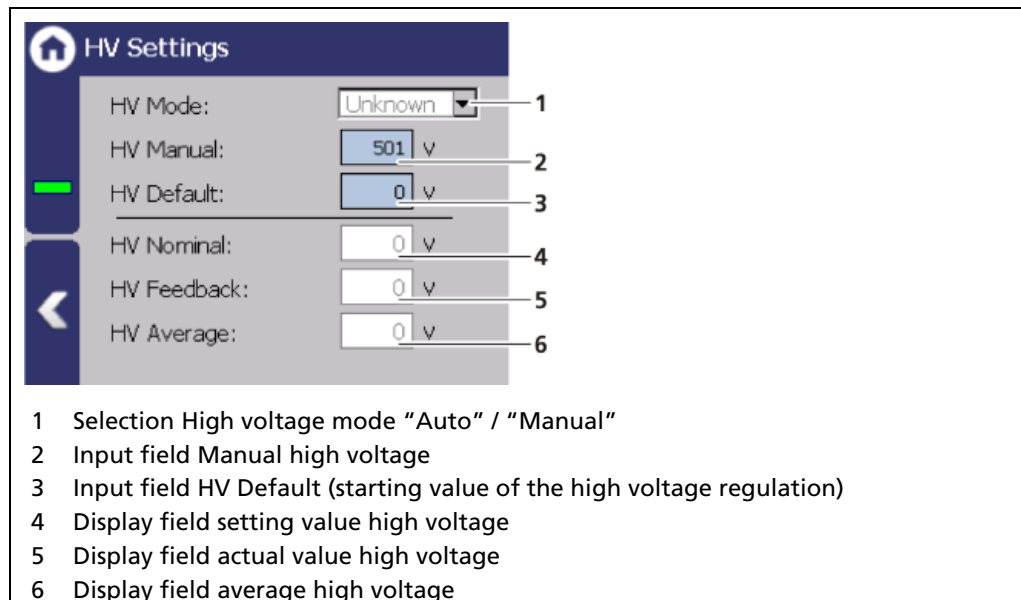

Fig. 56 HV Settings
1. Click on the selection arrow (Fig. 56, item 1) in order to set the desired HV mode ("Auto" or "Manual").
- MANUAL: The high voltage is maintained at a fixed, user-entered value (Fig. 56, item 2).
2. Click in the input field "HV Default" (Fig. 56, item 3) to open the input field.